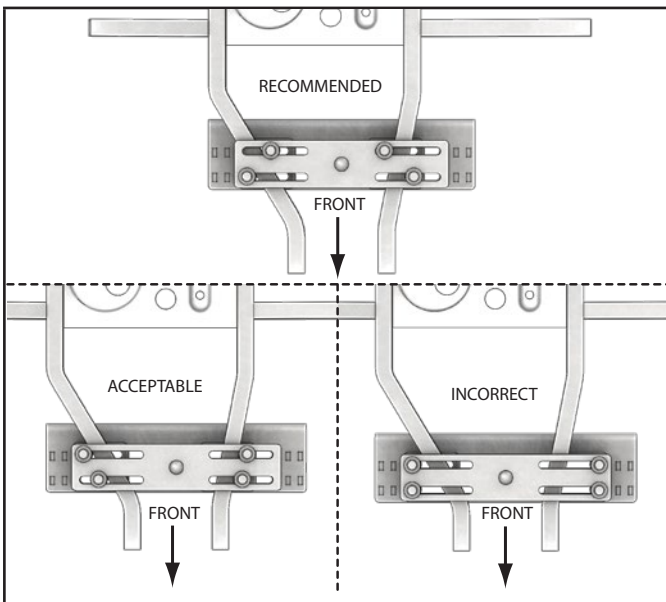

Figure 24 - Fastener Placement
2. Place the upper mount plate (2) over the frame at the location behind the tires where the frame widens out. Refer to Figure 24 for best fastener placement.